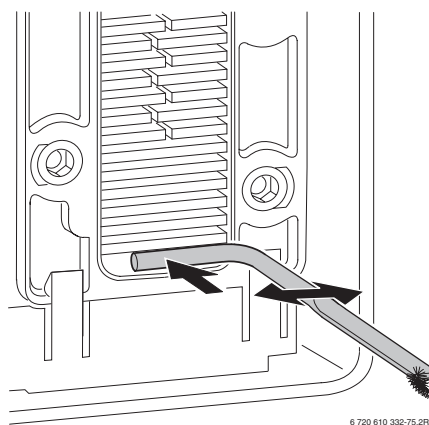

Fig. 54
- ▶ Flush the heat exchanger from the top. Refer to fig. 54.